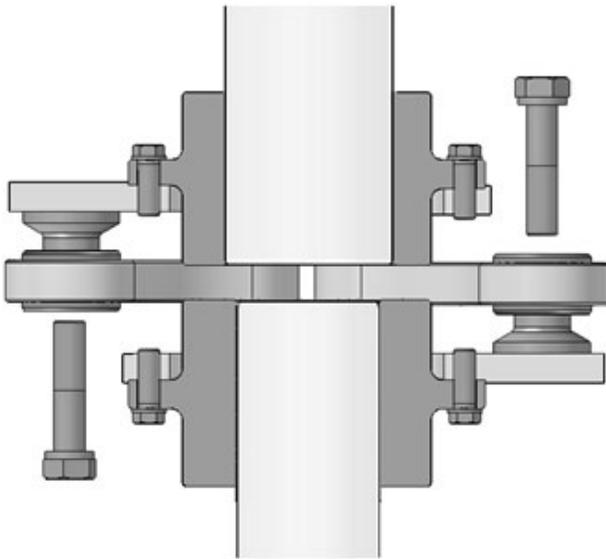

Fig 5.4
- The last step would be the mounting of the links against the corresponding hub or flange, using the corresponding bolts and washers.(11, 12) (See fig 5.4) Tighten the bolts progressively according to values shown in drawing.